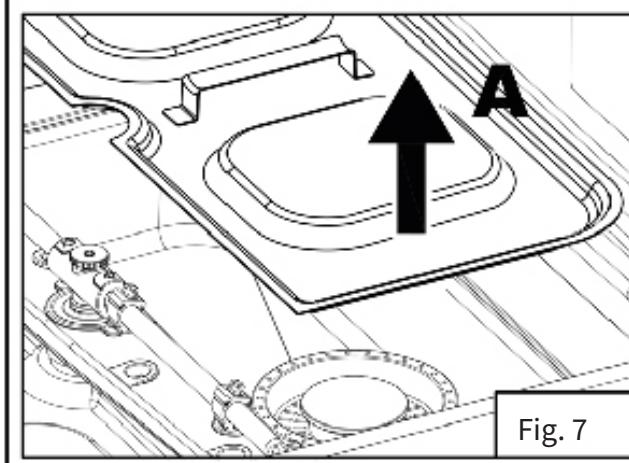

Fig. 7
- Set the washing and rinsing arms perpendicular to the edge of the door (Fig. 7).
- If the model has a full filter, pull it out (Fig. 7).
- Remove the complete filter ( Fig. 7 ).